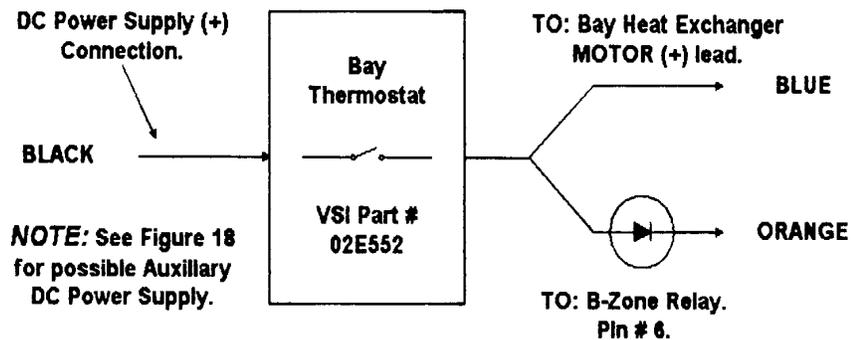

Figure 19
- A. Run a 14 gage wire from the BLACK wire lead to an auxiliary DC power source (fused), see Figure 19..
- the positive lead (+) of the Bay heat exchanger (BLUE lead wire), see Figure 19.
**NOTE:** A diode must be installed in WIRE #2, see Figure 19 for directional current flow. Without the diode, the Bay thermostat will not be able to control the water storage bay temperatures and overheating may occur. If using a VSI Whisper heat exchanger, the diode rating should be as follows: